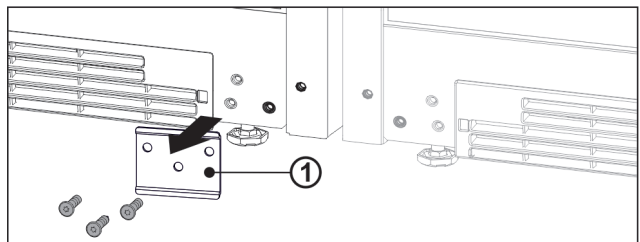

Fig. 14
- ▶ If the metal plate Fig. 14 (1) is installed, unscrew the metal plate.